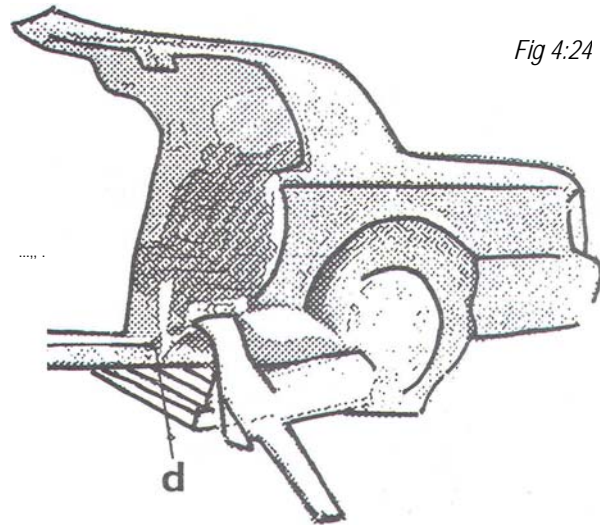

Fig 4:24
6. Cut the window line at point (c) Fig 4:23. 7. Support the 1/4 panel and using a cutting tool, cut between points (b) and (c) as shown in (e) Fig 4:23 and remove the cut away section.
**NOTE:** When dealing with a rear seat entrapment, instead of cutting at point (b) Fig 4:23, an alternative method is to cut the rocker panel at point (d) Fig 4:24. The "B" pillar can then be used as a lever to pull the cut away section down to the ground. This action will reduce confinement, due to the wrapping over of the rocker panel and the rear floorboard on the rear seat casualty.
This technique is SRS friendly. Where a side impact fails to activate the pre-tensioner housed in the base of the "B" pillar, to disassemble the side of the vehicle in this way will avoid the assembly. When dealing with an active system, anticipate a loud bang as the system deploys when the cut at point (d) is made. Fig 4:24.